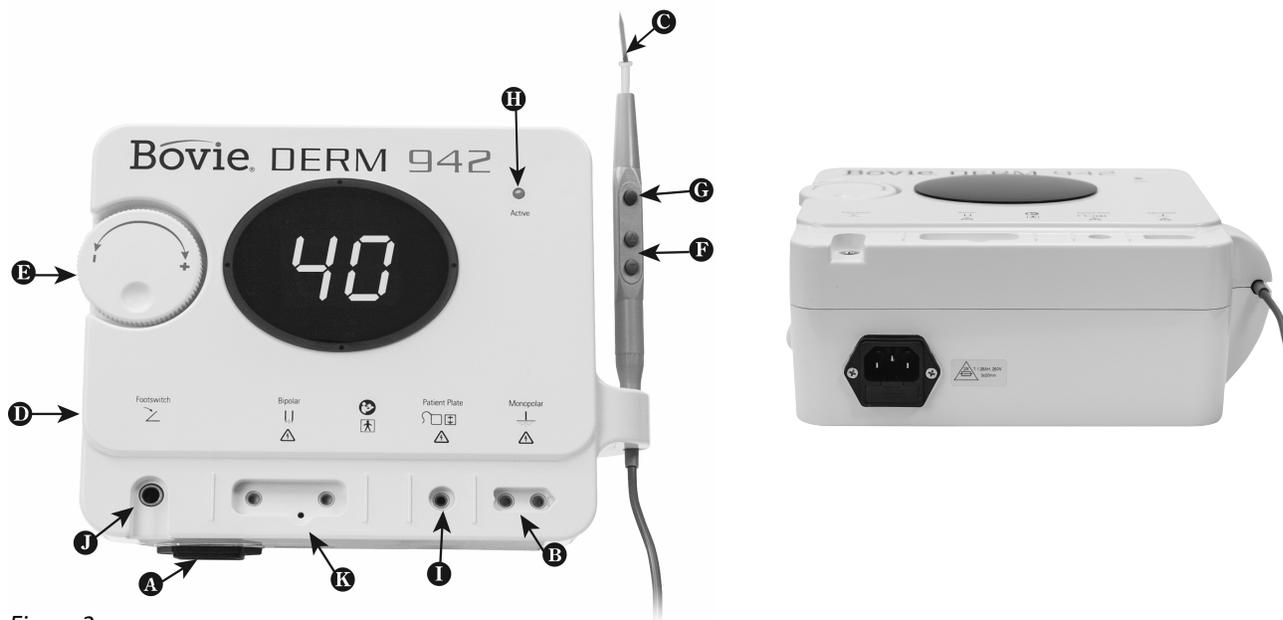

Figure 2
2. Plug the female end of the power cord into the base of the unit (see figures 2 and 3, letter A).
4. The monopolar output for the handpiece is on the lower right front of the unit (see figures 2 and 3, letter B). The handpiece plug is designed to fit in only one direction. Plug the connector from the handpiece into the receptacle on the bottom of the unit (see figures 2 and 3, letter B). The three button handpiece is designed to give the doctor complete fingertip control of the power output settings.
5. Slide the standard electrode into the handpiece until it is firmly seated (see figures 2 and 3, letter C). The handpiece will accept most standard 3/32" electrodes.
7. Turn the unit power on utilizing the switch on the left side panel of the unit (see figures 2 and 3, letter D).
8. Set the power output either by using the dial on the front of the unit (see figures 2 and 3, letter E) or the up and down buttons on the handpiece (see figures 2 and 3, letter F). When power level adjustment is being made by the handpiece an audible tone will sound to indicate that the power level has been changed. Depressing and holding the up or down buttons will cause the power settings to change more rapidly for quick adjustment of the output settings. Power output is displayed in ".1" watt increments from 0.1 to 10 watts.
9. To activate the unit, remove the handpiece from the holder. Place the handpiece in the desired position and depress the activation button (see figures 2 and 3, letter G). When the unit is activated, an audible tone is sounded and the blue active light will illuminate (see figures 2 and 3, letter H).
10. To use the optional grounding plate with cord (A802EU), insert the plug of the cord into the grounding plate output (see figures 2 and 3, letter I) and connect the other end into the grounding plate. The plate should be placed underneath the patient at a point where the entire plate is covered by bare skin. The use of conductive gel is recommended.
11. To use the optional bipolar cord (A827V), insert the plugs into the bipolar outputs (see figure 2, letter K). The cord is then plugged into the forceps. A sliding gate behind the monopolar and bipolar outputs prevents the user from using both simultaneously.
12. The optional footswitch (A803) is plugged into the footswitch output and placed on the floor (see figures 2 and 3, letter J). The footswitch can be used with monopolar procedures and must be used with bipolar procedures.